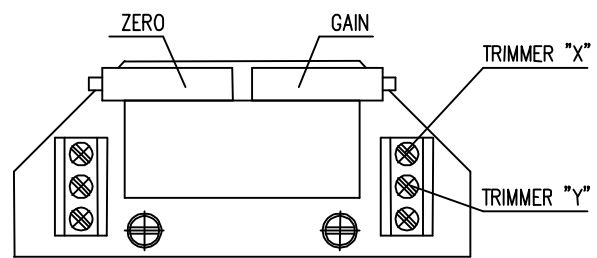

Fig.7
3.2 EPV – 3-wire version (Fig. 7)
- Adjust the resistive transmitter according to the previous chapter. The resistance is to be metered on the terminals X-Y (Fig. 7). The used transmitter resistance is 2000Ω or 100 Ω.
- Turn the adjusting trimmer ZERO (Fig. 7) to adjust the output current signal rate measured on the terminals 81-82 to 0 mA or 4mA.
- Turn the adjusting trimmer GAIN (Fig. 7) to adjust the output current signal rate measured on the terminals 81-82 to 20mA or 5 mA..